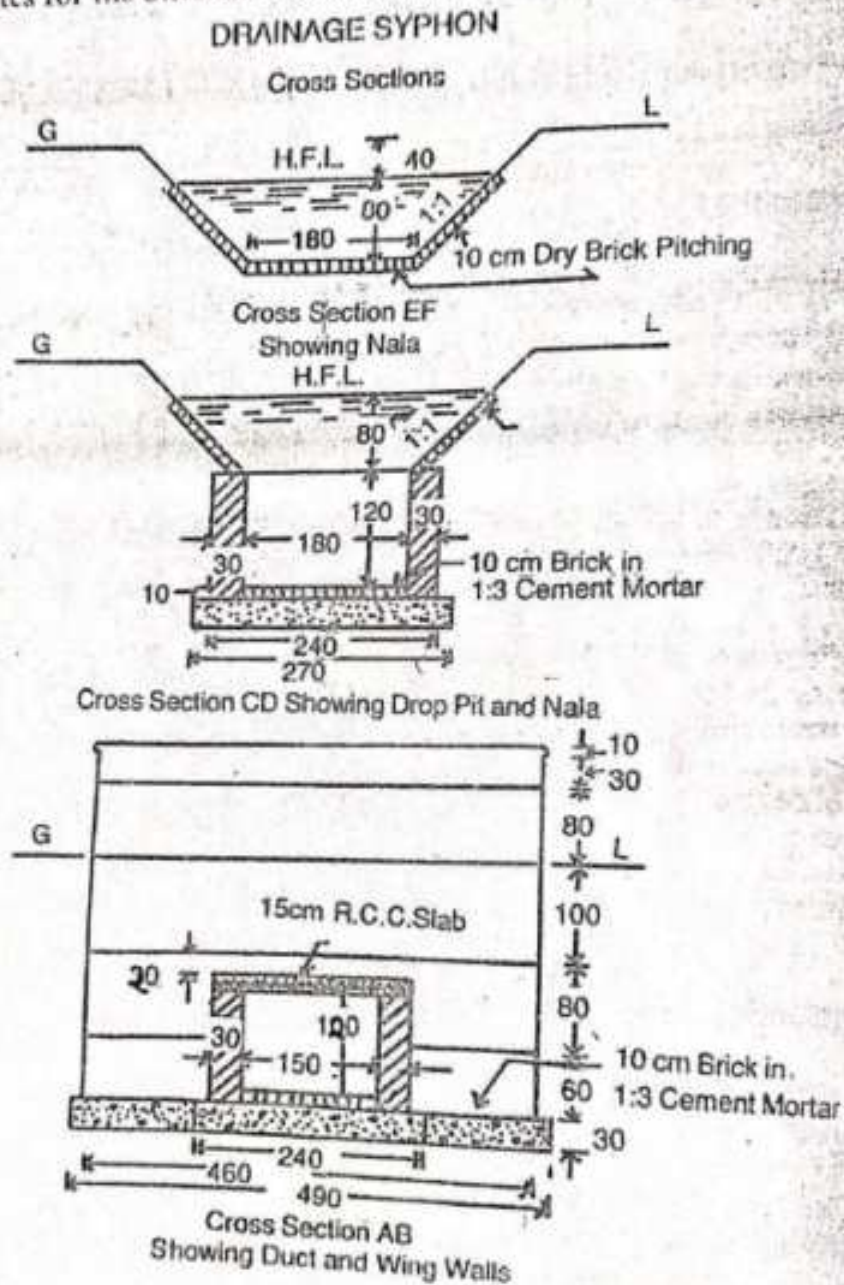

Fig 9-8
**Example 7.** — Prepare a detailed estimate of a Drainage Syphon across a minor from the drawing, Figs. 9-8 and 9-9.
\* Fig 9.8 & 9.9 of E.N. Dutta 134 & 135 page no.